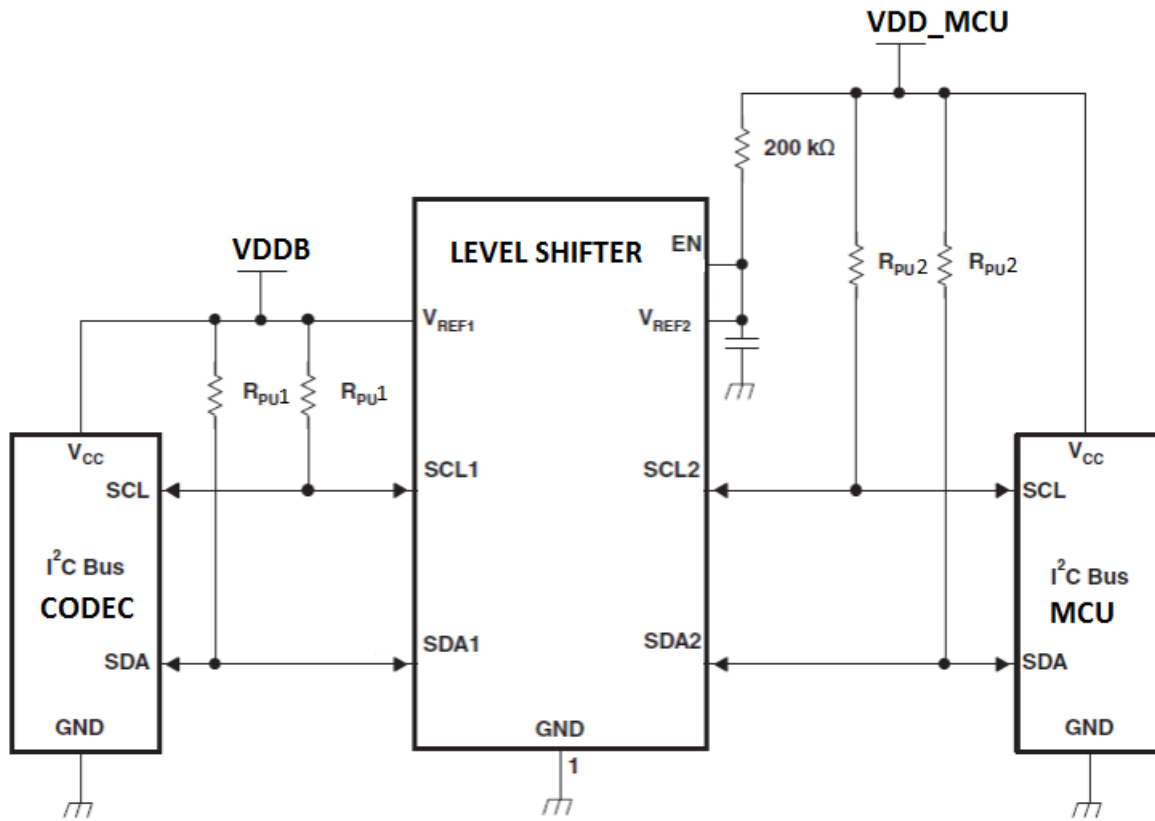

Figure 19: Typical I2C level shifter circuit
- Sometimes, I2C needs to use level shifter between different supplies domains. During Acknowledge, receiver side (CODEC) will pull low, and transmit side (MCU) is disable and pull high by pull high resistor. Because NAU88L21C SDIO can sink 2mA by default setting (maximum up to 8mA,) shown as below Figure 19, RPU1 and RPU2 need to be select such that total current  $V_{DDB}/R_{PU1} + V_{DD\_MCU}/R_{PU2}$  during Acknowledge should not be too large to exceed SDIO sinking capability.
Figure 19 provides the timing for Audio Interface Slave Mode.